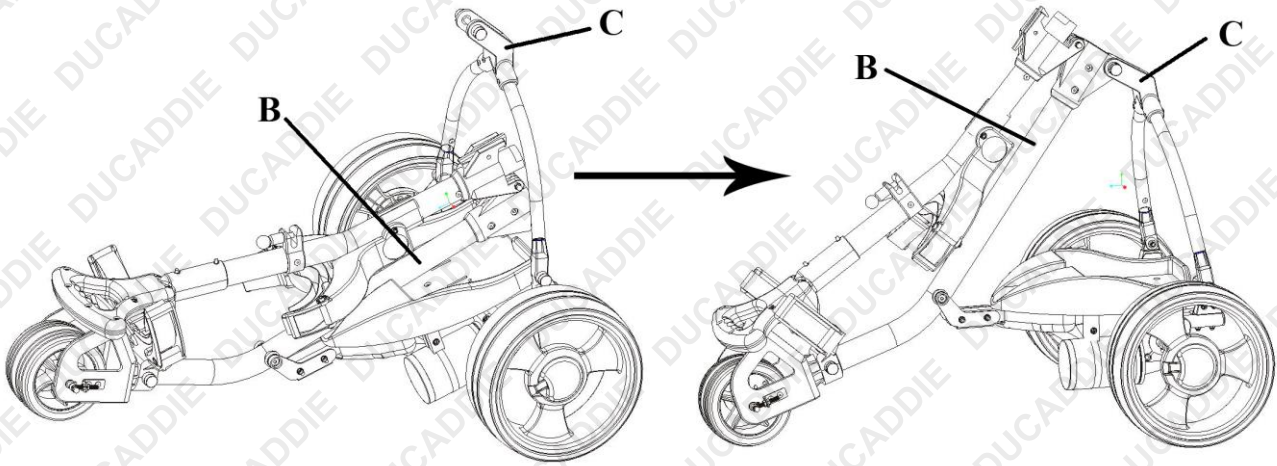

Fig 3
·Lift the main frame (B) upward to meet the support frame (C) as Fig.3 shown.